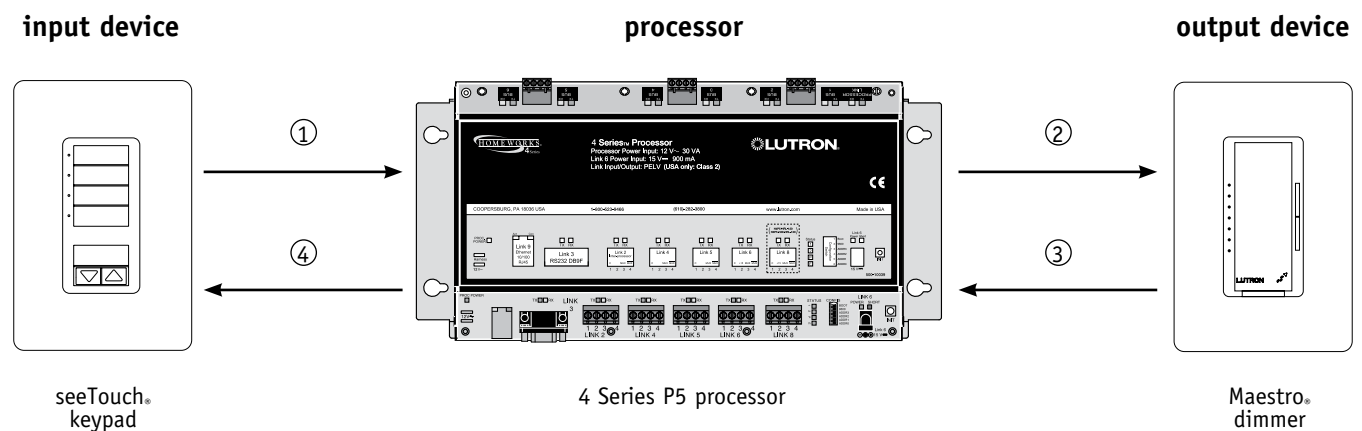

Figure 1 – HomeWorks Device Communication
Figure 1 shows the basic signal flow of what happens when a keypad button is pressed. (1) The keypad sends a message to the processor indicating which button has been pressed. (2) After receiving the keypad button press, the processor tells the appropriate dimmers what to do. (3) The dimmers each send a command back to the processor informing it the lights are on. (4) The processor then tells the keypad when all of the lights have turned on, so that it can provide feedback on the keypad in the form of a lit LED (next to the button of the scene that was activated). In the unlikely event that communication is interrupted, this sequence will be repeated multiple times to always ensure reliable communication.